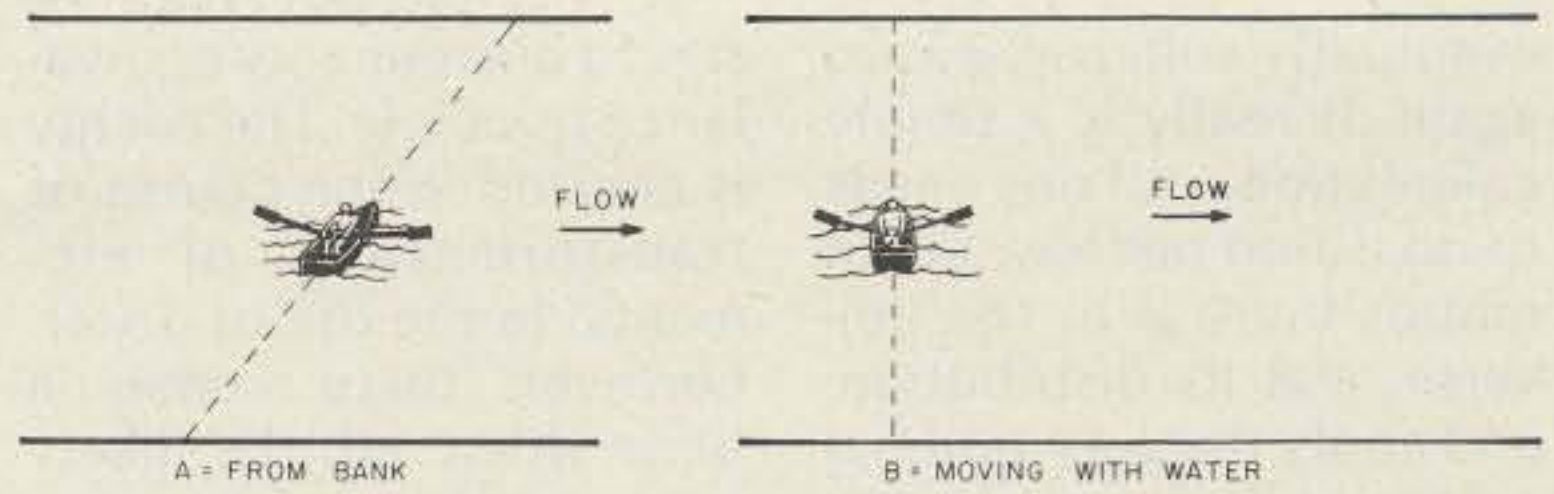

Fig. 4.
Consider Fig. 4. Here, a rowboat moves across a river, seen (A) from the frame of reference of the riverbank, and (B) from the frame of reference of the flowing water. Clearly, an observer on the bank sees a larger distance traveled than the observer on the boat itself. If the boat were a beam of light, and its transit time were clocked both by a waterborne and beached observer, there would be two different velocities recorded for light, because velocity is distance per unit of time. To complicate matters unnecessarily, let us say that there is a helicopter flying overhead at three times the stream flow rate. This observer would see the boat moving backwards at twice the rate seen by the bank observer!